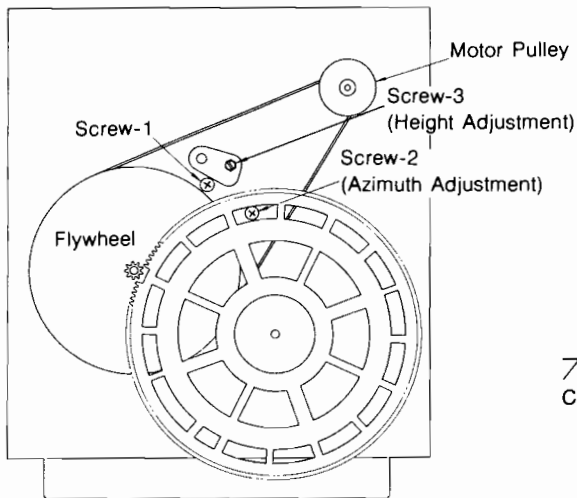

FIG. 11
1. Adjust screw-1 with a gauge until the head is positioned perpendicularly to chassis by visual check, as shown in Fig. 11 and 12.
2. Make sure that head is positioned parallel to chassis by adjusting screw-2, as shown in Figs. 11 and 13.